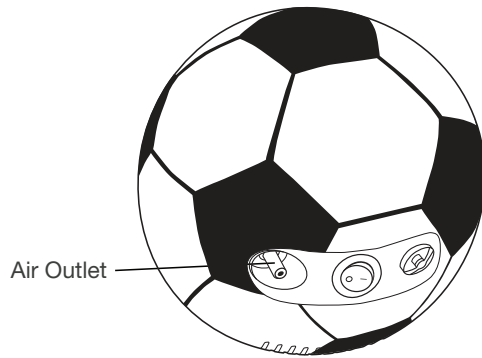

Figure 6-1
9. Attach one end of the tubing firmly onto the air outlet on the back of the compressor unit. It is important that the tubing be pushed all the way onto the air outlet. The tubing is designed to fit tightly (Figure 6-1).